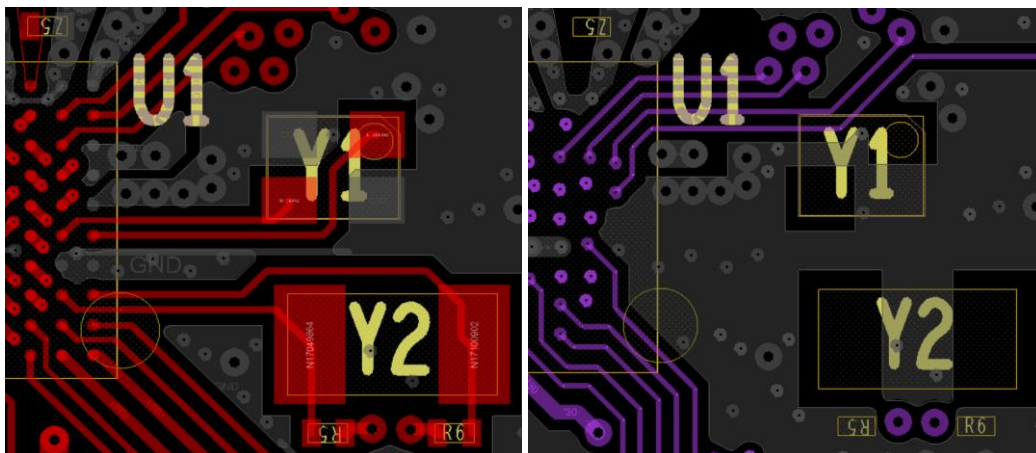

Figure 40: Remove Copper on Internal Layer (Right) under XTAL
- Remove GND area under XTAL pads (Figure 40)